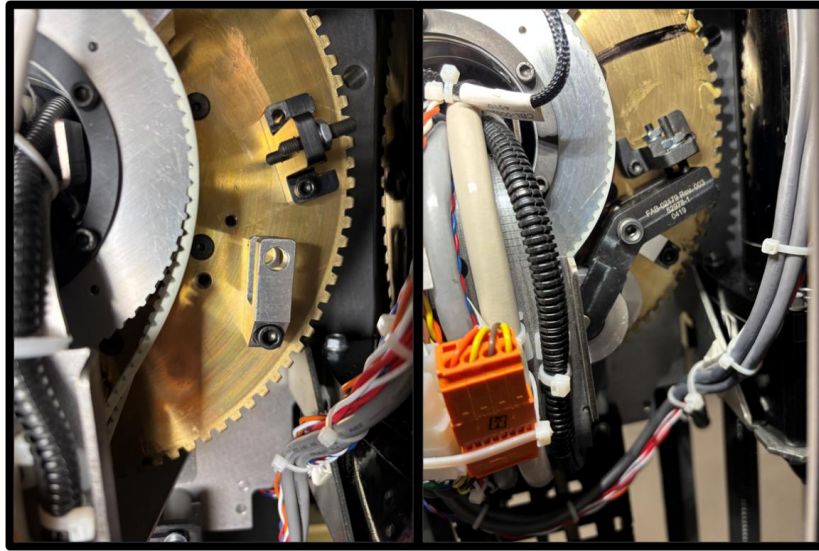

Figure 13 - Reinstall of Tensioner Roller Assembly
18. With the TLS-01065 C-arm/Detector Alignment pin in the detector alignment hole, reinstall the belt tensioner mount and tension roller assembly disengaged in section 1.3 as shown in Figure 13.